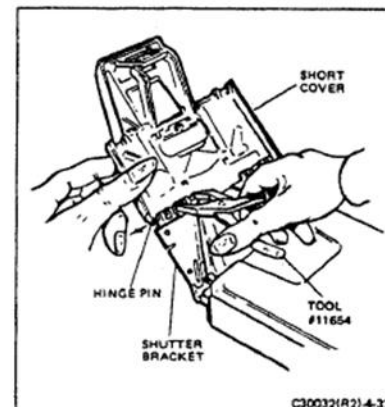

FIGURE 4-32 REMOVING SHUTTER BRACKET/SHORT COVER HINGE PINS
- g. Remove the two shutter hinge bracket-short-cover pins with Special Tool #11654 (Figure 4-32). Remove the short cover assembly.
- a. Align the new short cover assembly on the shutter hinge bracket and secure the two by replacing the two pins which hold them together (Figure 4-32). Be certain that the two assemblies are flush.
leads on the 5th, 6th, 7th, and 8th solder pads of the flex circuit (see Figure 4-32).